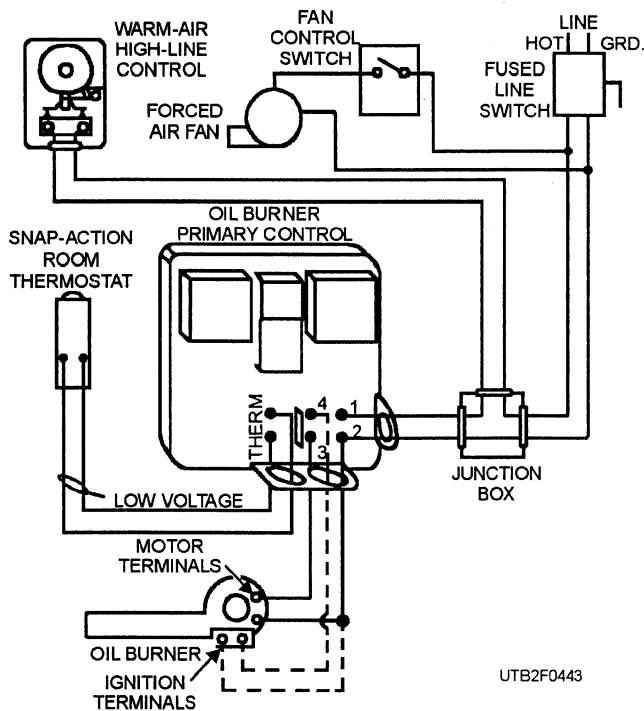

Figure 4-43.—Typical forced warm-air control system.
Oil-burner controls are essentially the same as stoker or gas controls. The only difference is that the oil burner has, in addition, two ignition electrodes and a primary or safety control. A diagram of a typical forced warm-air control system is shown in figure 4-43.
**Primary Control.**—The burner primary control is electrically connected between the thermostat and the burner, as shown in figure 4-43, and it performs several functions. The primary control closes the motor and ignition circuits when the thermostat calls for more heat. It breaks the motor circuit and stops the burner when the motor first starts if the fuel fails to ignite or if the flame goes out. The control prevents starting of the burner in case of electrical failure until all safety devices are in the normal starting position.